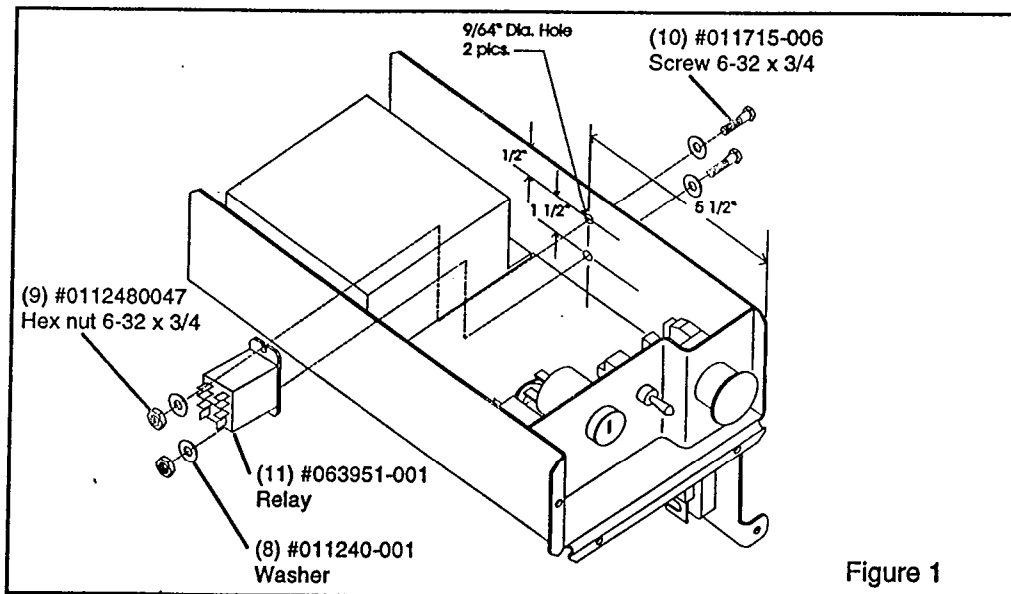

Figure 1
**PROCEDURE:** Read all instructions thoroughly and refer to figures 1 through 5 before starting.
**PROCEDURE: (Continued)** Read all instructions thoroughly and refer to figure 1 through 5 before starting.
15. Fix the relay, (#063951-001), to the side tray, using two 6-32 x 3/4" screws (#011715-006), two 6-32 x 3/4" hex nuts (#011248-047), and four washers (#011240-001). Drill one 9/64" diameter hole 5 1/2" from the side of the module and 1/2" down from the top of the module. Drill another 9/64" diameter hole 1 1/2" below the first hole. Figure 1.
**Procedure:** Read all instructions thoroughly and refer to figures 1 through 5 before starting.